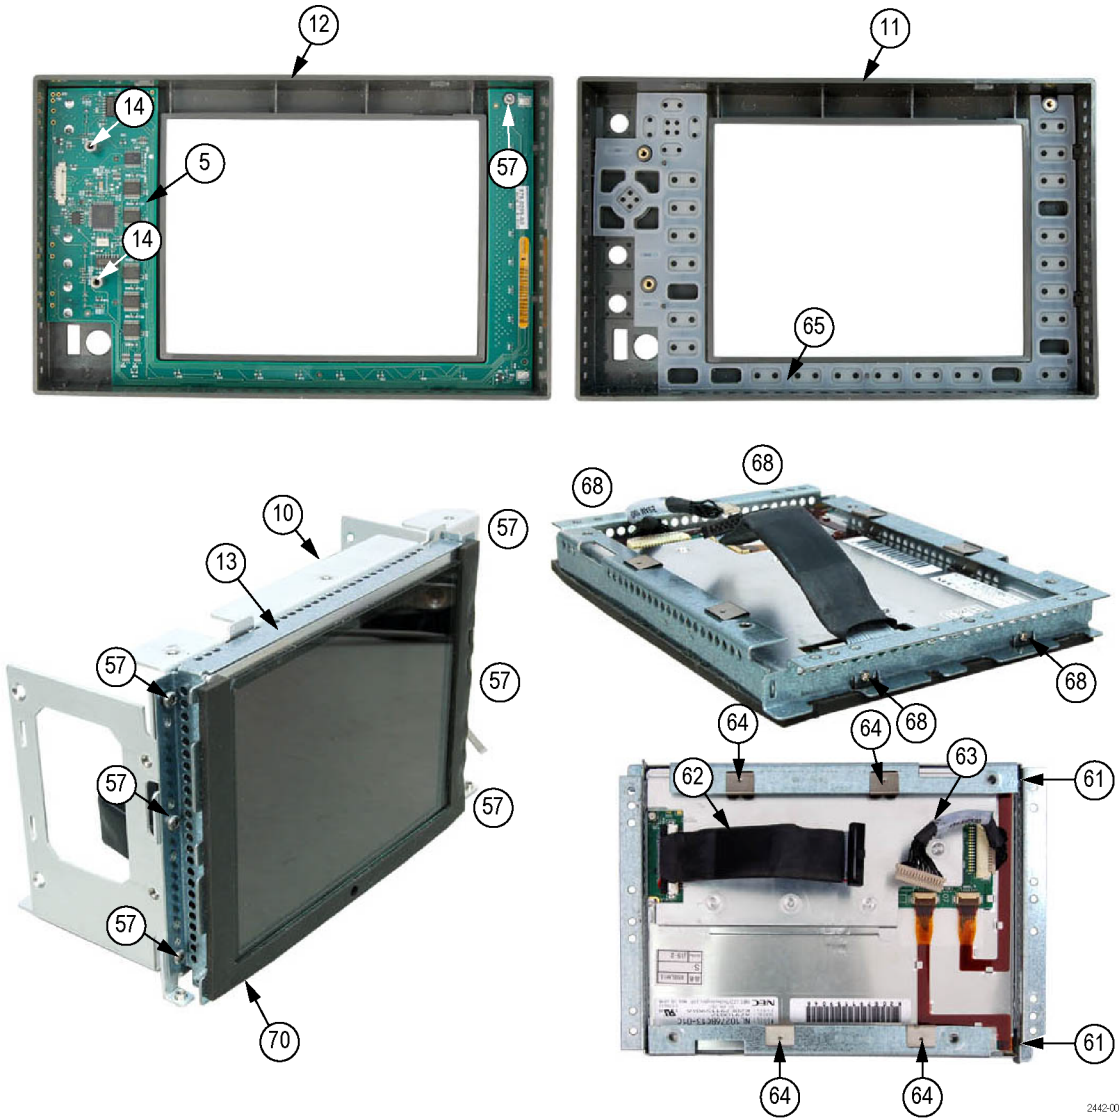
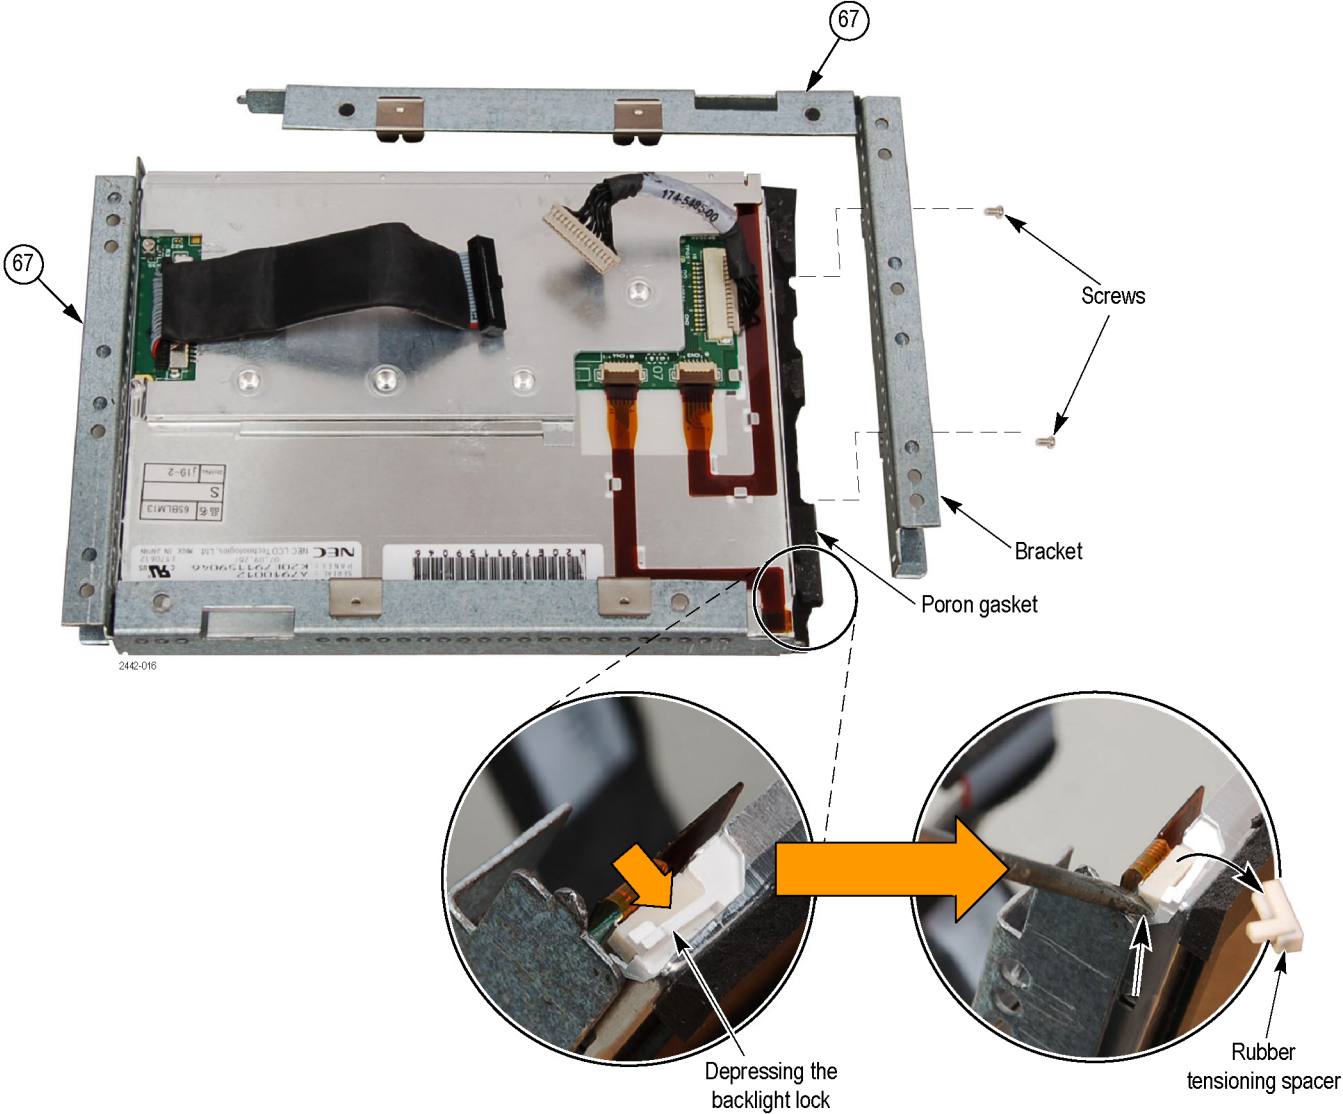
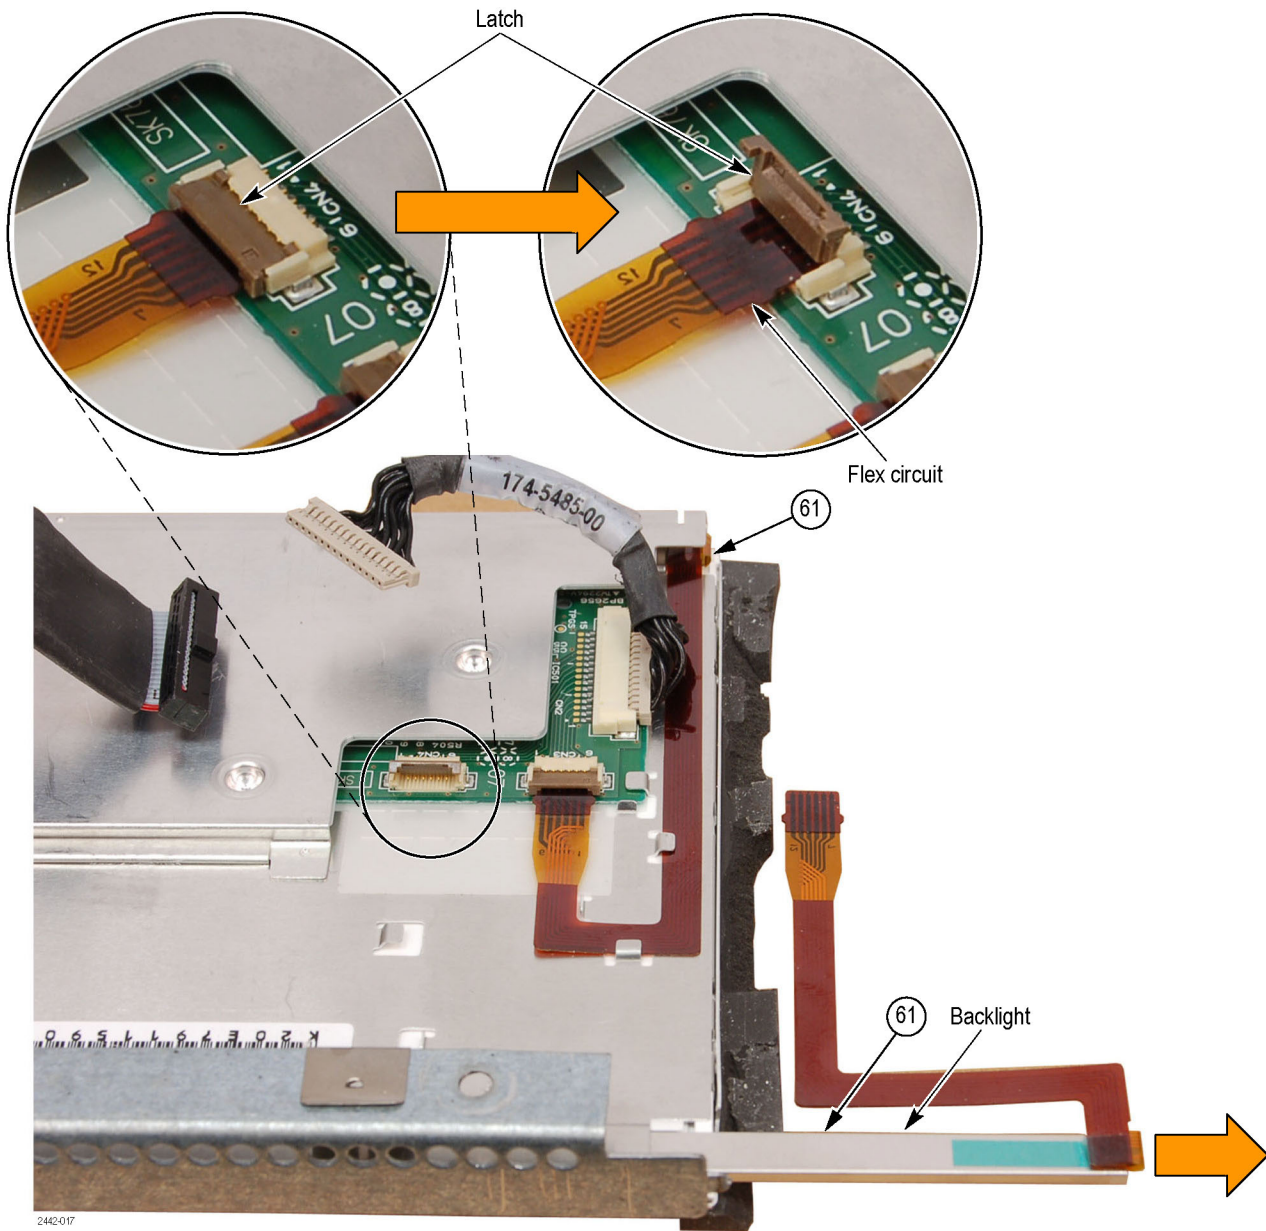

Figure 14: Front panel board and backlight removal
Figure 15: Removing the LCD assembly bracket
Figure 16: Backlight removal
**Remove the backlights.** There are two backlights. One is located at the top of the LCD assembly and one is located at the bottom of the LCD assembly. Each can be accessed from its respective corner of the assembly. (See Figure 14.) Perform the following procedures to remove the backlights. (See Figure 15.) (See Figure 16.)
8. Remove the two screws attached to the right-hand bracket of the LCD display assembly. The right-hand bracket is on the right when the assembly is facing you. (See Figure 15.)
10. While depressing the small white plastic backlight lock (located on the corner of the assembly), remove the rubber tensioning spacer using a thin object.(See Figure 16.)
11. Lift up on the flex circuit connector latch and remove the flex circuit from the connector. (See Figure 16.)